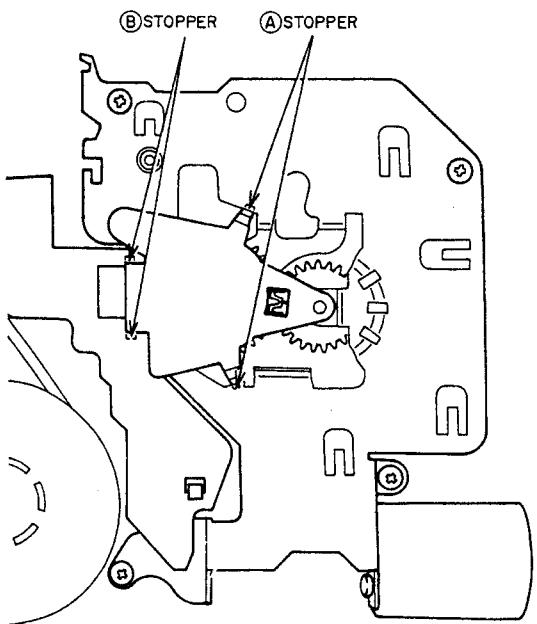

Fig. 3-5
1) Release the two Ⓐ stoppers as shown in Fig. 3-5.